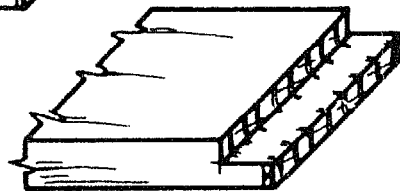

Fig. 7
- Plane off the waste from the sides with the smoothing plane. Prevent splintering by working inwards from the ends (Fig. 7).